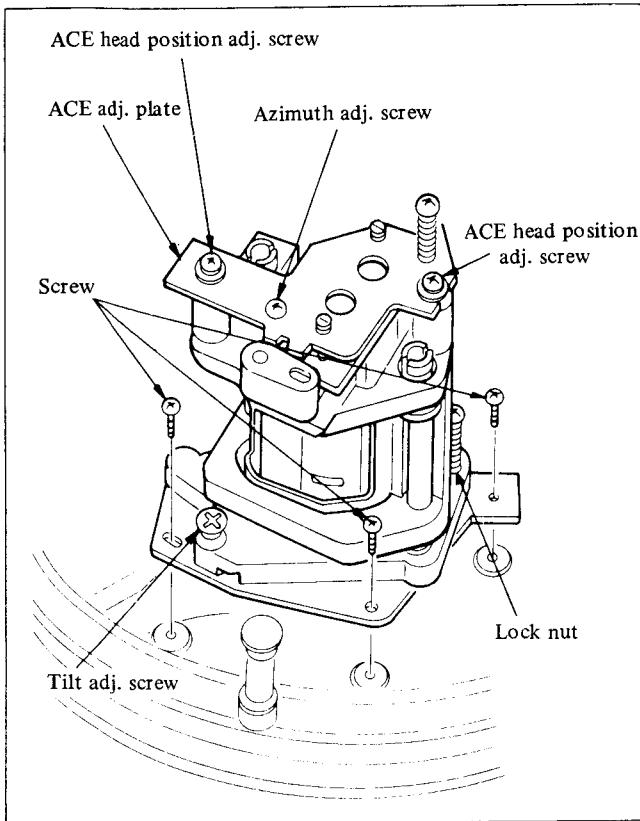

Fig. 3-28. Removal of ACE Assembly
(1) The ACE assembly can be removed if three screws shown in Fig. 3-28 are removed.
- Loosen the lock nut shown in Fig. 3-28.
(6) When there is an edge curl at the tape contacting the tape guide in
- Adjust the azimuth adjustment screw on the audio head for a maximum VTVM reading. (See Fig. 3-28)